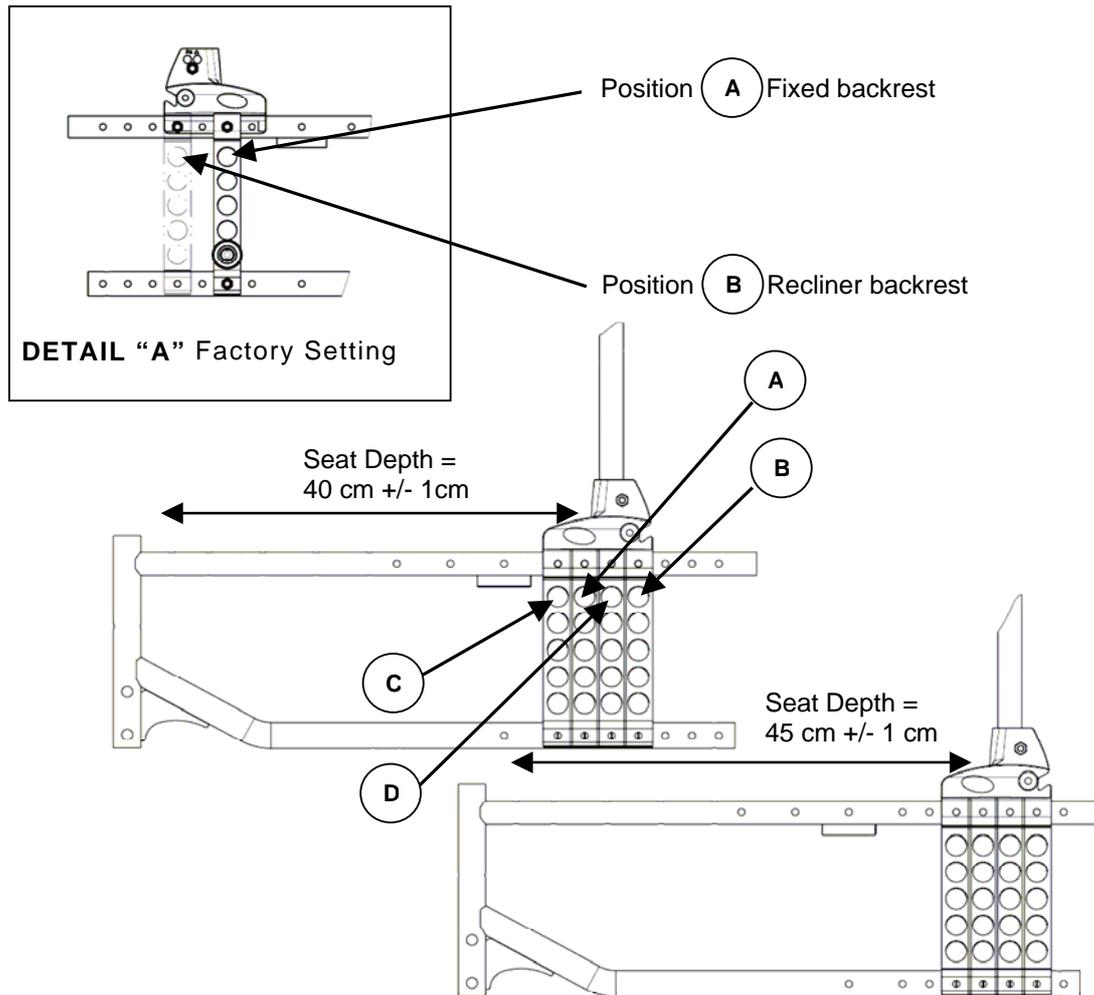

FIGURE 5.6 4 Possible Positions of Wheel Plate
- Factory setting for Fixed backrest is Standard position “A”, for Recliner backrest is Passive position “B”. Refer to detail “A” of FIGURE 5.6.
Respect factory settings related to backrest type (“A” for Fixed, “B” for Recliner), refer to detail “A” of FIGURE 5.6. and to seat depths (40 cm or 45 cm).